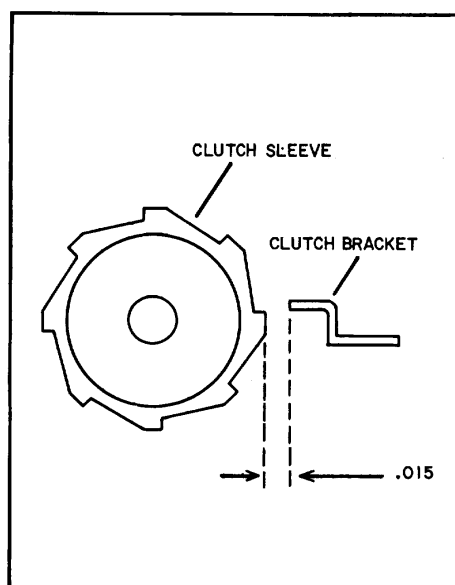

Figure 5-13. Clutch Sleeve Clearance
j. After installing the shaft, check the clearance between the clutch sleeve and the clutch bracket (Reference 5, Figure 12, IPB Section). When the bracket is disengaged from the clutch sleeve by the action of the pushbutton speed switches, the clearance between the sleeve and the bracket should be about 0.015" (see Figure 5-13). The bracket mounting screw can be loosened and the bracket position shifted slightly to obtain the correct clearance.